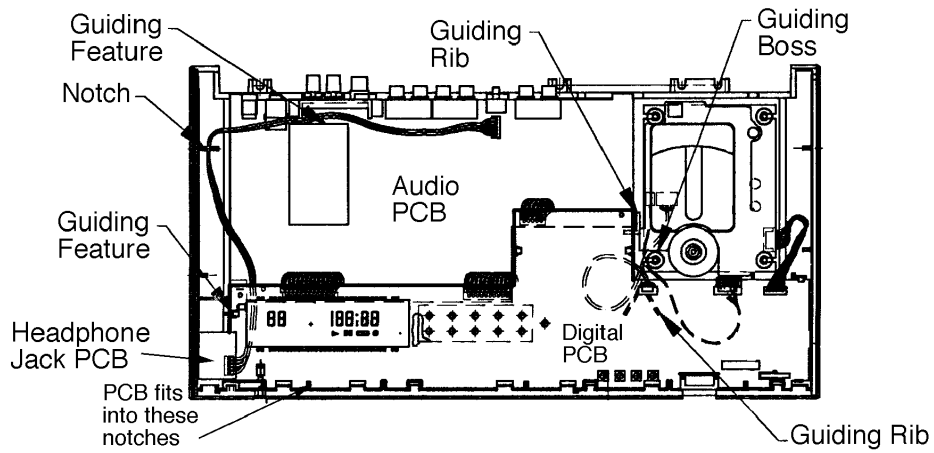

Figure 7. Base Assembly (top view with covers removed)
**Note:** Make sure that four nylon washers (23) are mounted on the posts before installing the mechanism (later models only).
**Note:** The CD mechanism wires must be routed correctly (see Figure 7) for proper CD operation. A sign of improper routing is a clicking noise when playing tracks at the outermost edge of the CD. Perform the CD Final Verification tests on page 31 to ensure proper operation.
**8.2** Slide the PCB (10) into position. There are notches in the PCB which mate with notches in the base (19). See Figure 7.
**Note:** Make sure that the connections to the Headphone Jack PCB (10) are routed through the guiding notch on the side of the console (see Figure 7).
**10.3** Snap the PCB (10) carefully down under the four locking tabs. Make sure that the CD mechanism connections are routed properly. See Figure 7 and procedure 6 note.